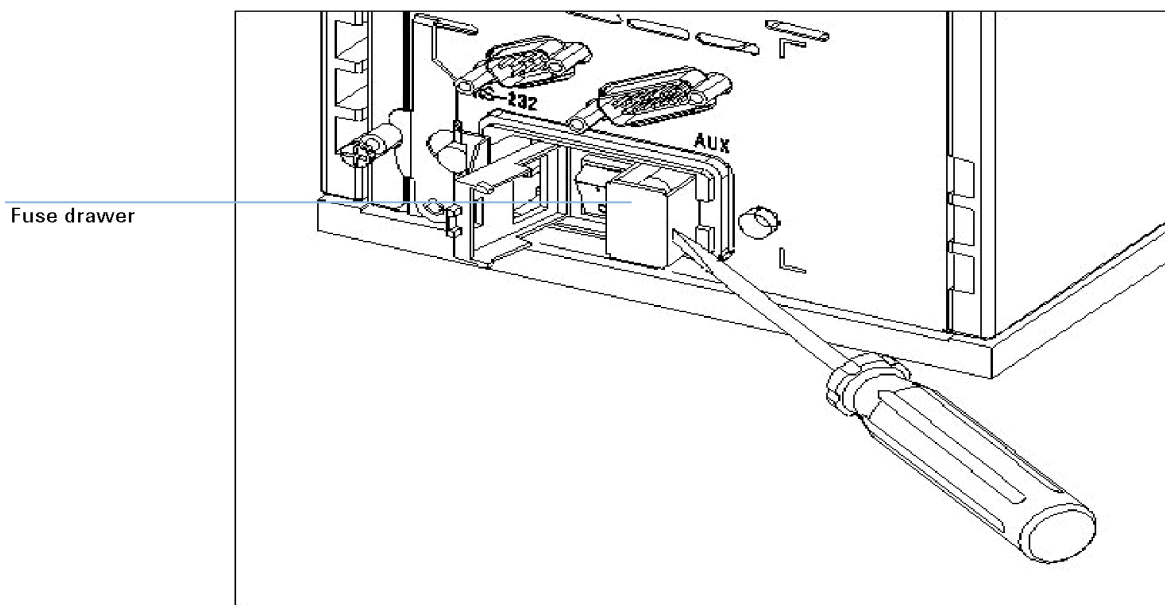

Figure 15 Remove fuse drawer
- 4 Pull out the fuse drawer as shown in Figure 15 on page 188.